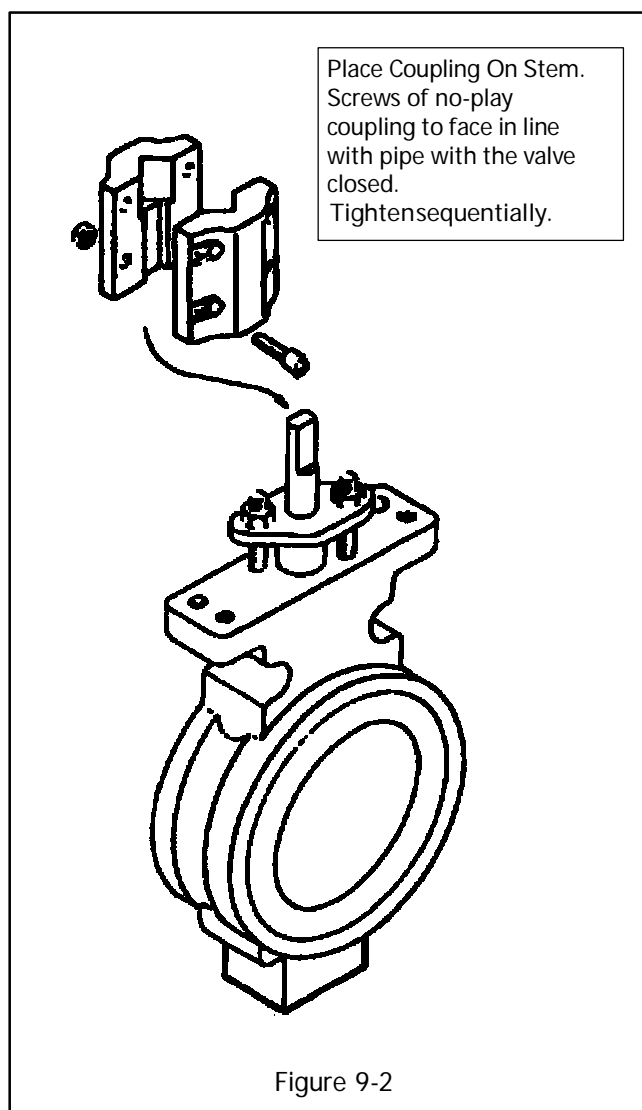

Figure 9-2
3. Place the coupling onto the valve stem. If the valve has a two-piece "no-play" bolted coupling, assemble the coupling loosely on the valve stem. Use socket head cap screws and lock nuts. (See Figure 9-2.)